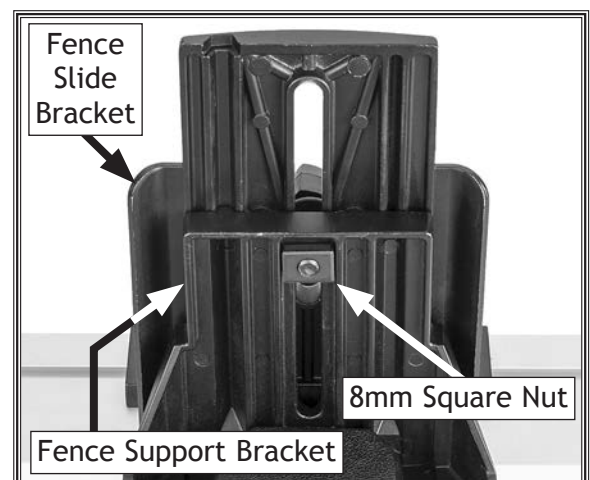

Figure 14. Square nut installed on fence slide lock handle.
6. Install 8mm square nut on fence slide lock handle and tighten handle to lock in place (see **Figure 14**).